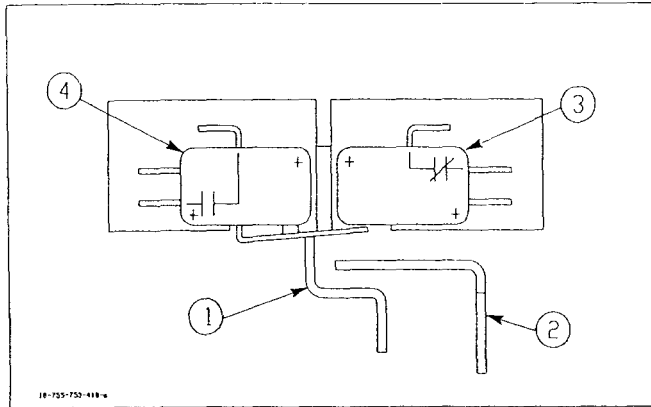

Figure 10a. Position 1. Springs discharged; motor in run position.
(Note that Figures 10a-10c are depicted as viewed from below)
In Figure 10a, note that spring position lever (1) is forward, actuating both switches. Motor/gear position lever (2) is retracted. Motor cutoff switch (3) is closed. Application of power at this time will cause the motor to start, thereby charging the closing springs.
The springs have reached charged position. The motor/gear lever (2) has been retracted by roll pins on the large gear as the cam follower (82, Figure 2) on the large spur gear has disengaged from the wind and close cam (34, Figure 2). The motor cutoff switch (3) has opened, stopping the motor and the closing coil switch (4) has closed. Upon application of power to the closing circuit, the breaker will close. Switches then return to position 1 (Figure 10a).